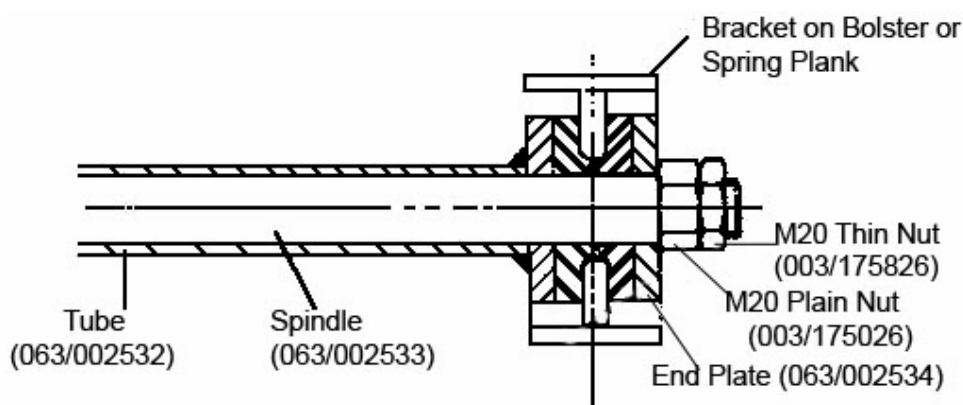

Figure 1: Bolster Control Rod End Fixing
7. If required loosely assemble components as shown in Figure 1.